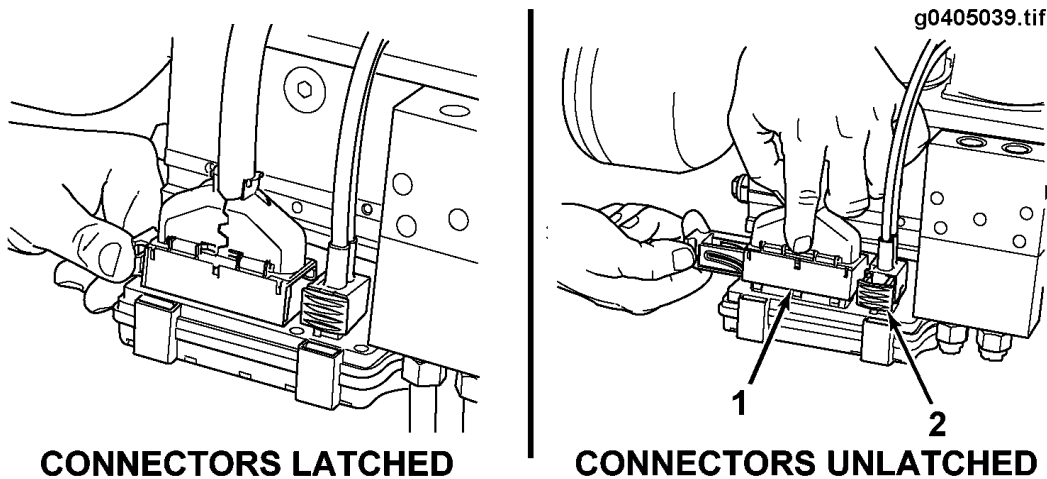

Figure 39 Unlatching the ECU Connectors
4. Unlatch and disconnect both electrical connectors from the ECU module. Refer to FIGURE 39.